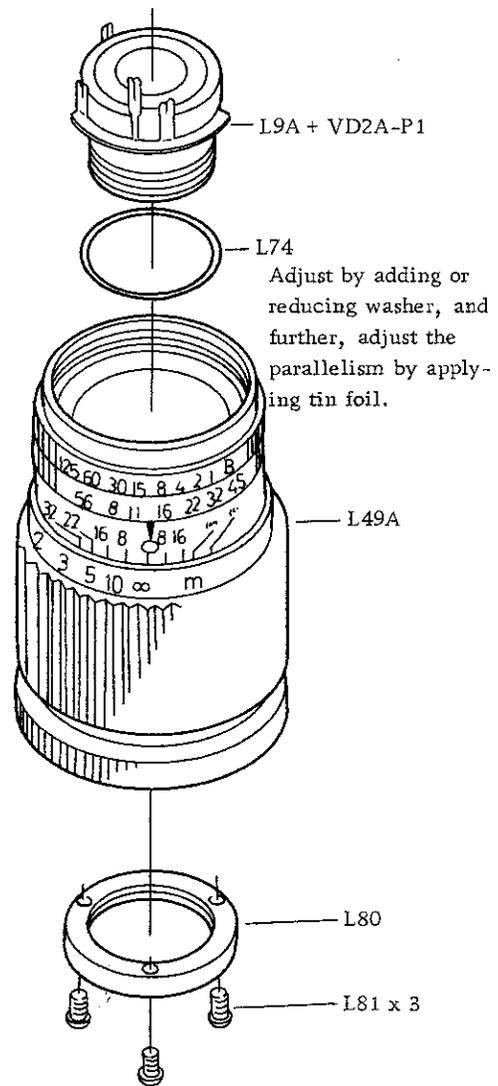

Fig. 4
- A. Install the shutter installation seat (L9A) on the lens barrel with washer (L74), and tighten the ring (L79) with screws (L80, 3 each). Fig. 4
A. Install the shutter installation seat (L9A) on the lens barrel with washer (L71), and tighten the ring (L80) with screws (81, 3 each). Fig. 4
B. For the focus adjustment, select proper washer from washers (L74) having various thicknesses. When the focus is unbalanced at one side, adjust the parallelism by using tin foil in lieu of the washer (L74). Fig. 4